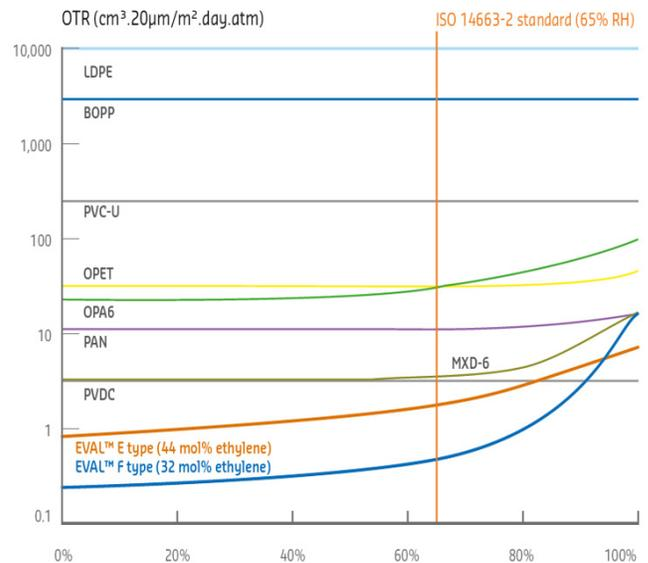

Figure 5. The effects of RH on various polymers.¹
Relative humidity (RH) also has an impact on the permeation rate of some materials, as shown below in Figure 5. Increased RH causes some materials to be less effective barriers, while others become more effective.